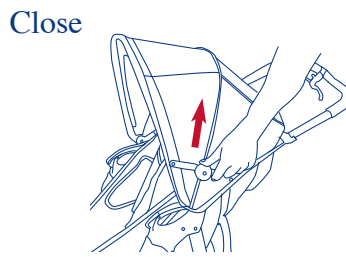

Figure 11.
- To fold the canopy, pull upwards on the tensioners and then pull backwards on the front edge. Please see figure 11.